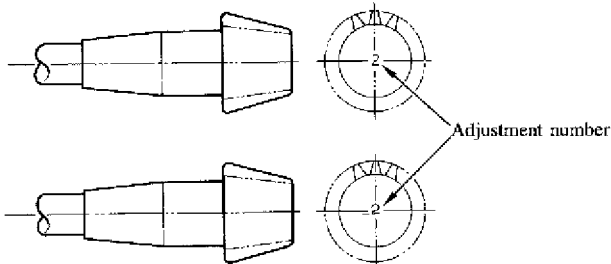

Fig. 1: Location of Adjustment Numbers
1. Handwritten marking with electric pen. This number should be used for the adjustment value. See Fig. 1.